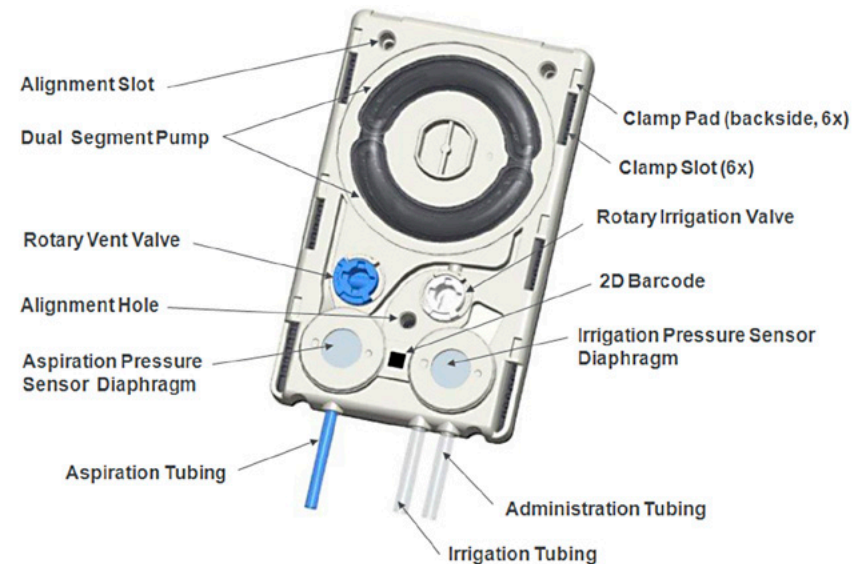

Figure 2-8 Fluidics Management System (FMS)
- 7.5 **Fluid Management System (FMS)** - The Fluidics Management system refers to the consumable cassette that interfaces with the Fluidics Module and provides for routing and control of fluid to and from the eye. All control and sensing functions are non-invasive relative to the sterile patient fluid path. Key components of the FMS are identified in *Figure 2-8*.